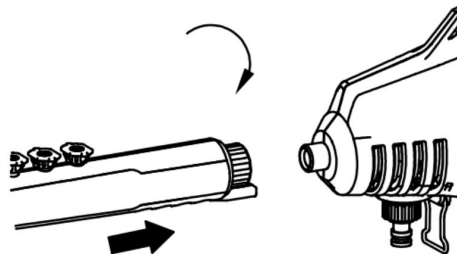

Fig.2
2. Attaching spray lance to the washer as shown in Fig.2.